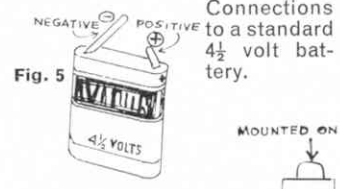

Fig. 5
Before assembly, carefully check and identify each component and become familiar with the connections to the transistors which are shown separately in Fig. 5. This is most important as a wrong connection can destroy a transistor instantly. Make absolutely sure you identify the *collector connection* (C) which is adjacent to the 'red spot'. All transistors are marked this way.